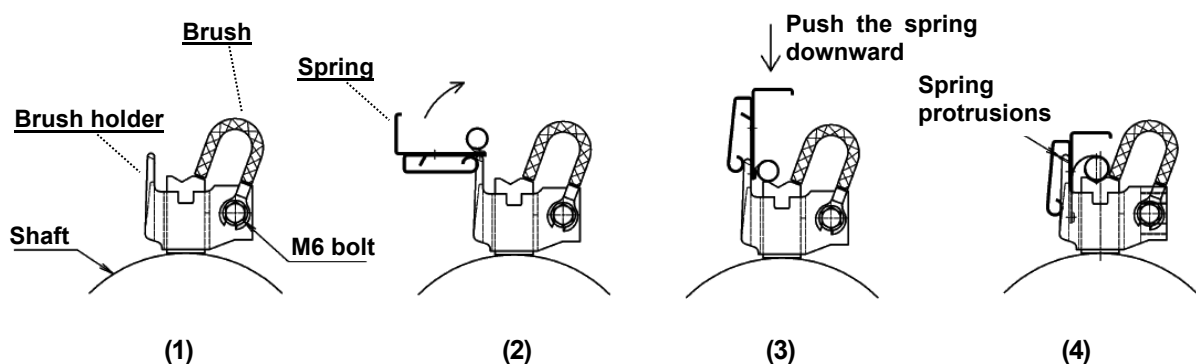

Fig. 5-2 Earth Brush Installation Instructions
This structure is an example of a constant-pressure loading spring type. Assemble in the order shown in Figure 5-2 (1) to (4).
- (1) Set the brush in the brush holder and attach the lead wire to the screw of the brush holder.
- (2) Spread the tip of the spring slightly and attach it to the brush holder while hooking it to the brush holder.
- (3) Push the spring downward.
- (4) Attach the spring by hooking the protruding part of the spring into the hole of the brush holder.